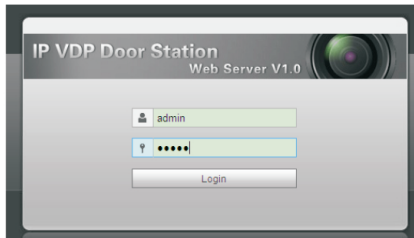

Figure 3-1
- Step 2** In Internet Explorer, input IP address of the VTO, and press Enter. System shows Figure 3-1.